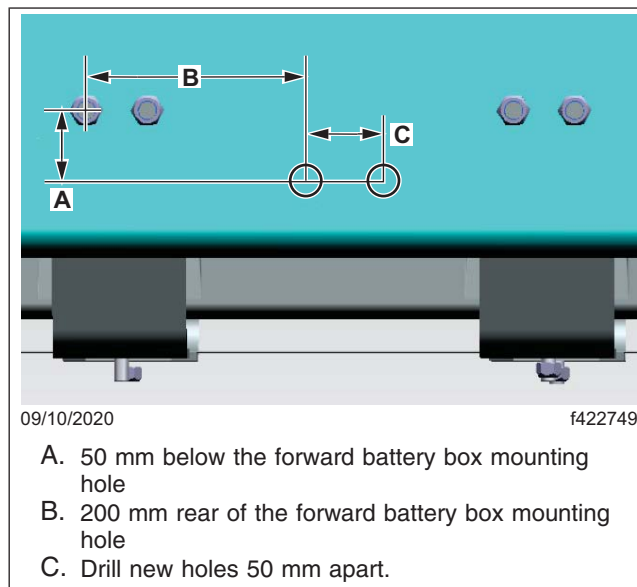

Fig. 25, Drill Pattern
9. Drill a pattern of two 50 mm holes that are 200 mm rear and 50 mm below the forward battery box mounting hole on the left frame rail as shown in Fig. 25.